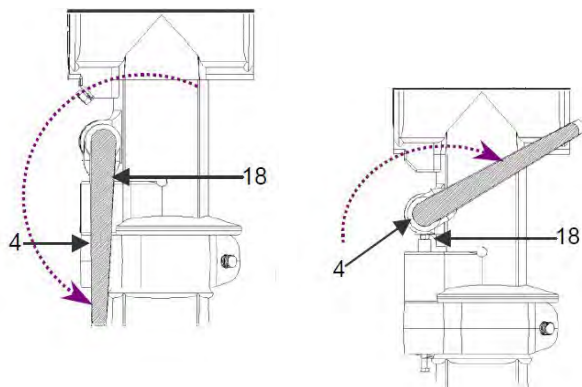

Fig. 28: Memo handle
Step 1: **Opening:** Move the memo handle (Pos. 4, Fig. 28) to position 18, fig. 28.
Step 3: Rotate the memo handle (Pos. 4, Fig. 28) away from position 18, fig. 28 and swivel the feed to the starting position.